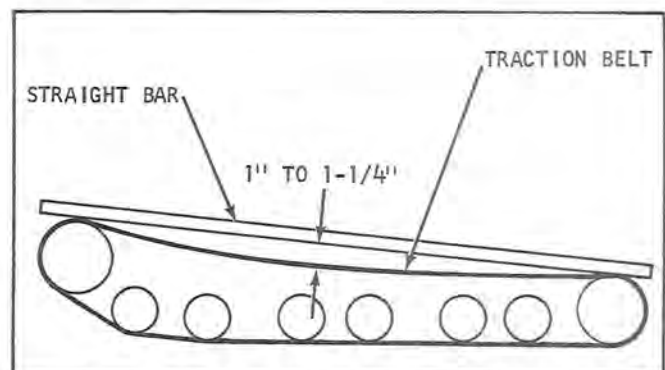

Figure 17
- Rest a straight bar (figure 17) of sufficient length along the top surface and near the edge of the track. Insert the straight bar through the back end of the snowmobile and check for proper 1 to 1-1/4-inch sag. Repeat procedure on opposite side and note the difference, if any, in the track tension.